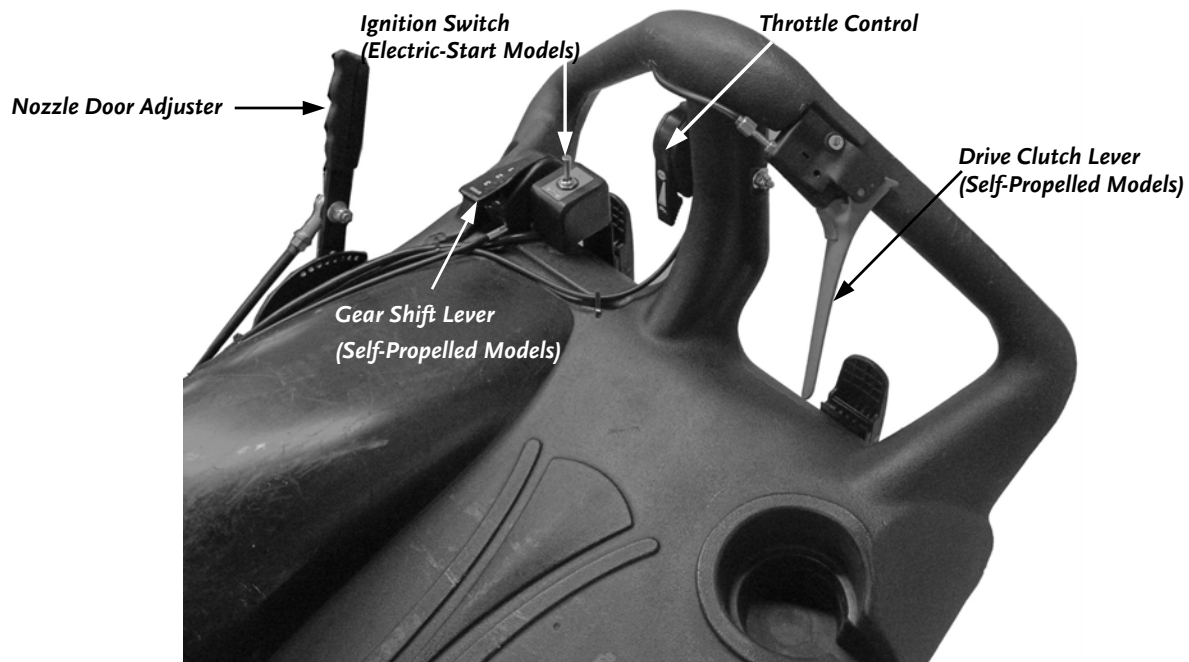

Figure 11
The Operator's Position is at the rear of the machine between the Handlebars. The Operator should stand in a position to grasp both Handlebars firmly, which allows sufficient leverage to steer the machine. See **Figure 11** for the Operator's controls.
1. Push the Throttle Control Lever (**Figure 11** on page 23) all the way forward to the fast (Rabbit) position.
Move the Throttle (**Figure 11** on page 23) all the way back to the STOP position.
3. To stop and shut down the machine, release the Drive Clutch Lever to disengage the Wheel Drive and pull all the way back on the Throttle Control Lever (**Figure 11** on page 23) to the STOP position.